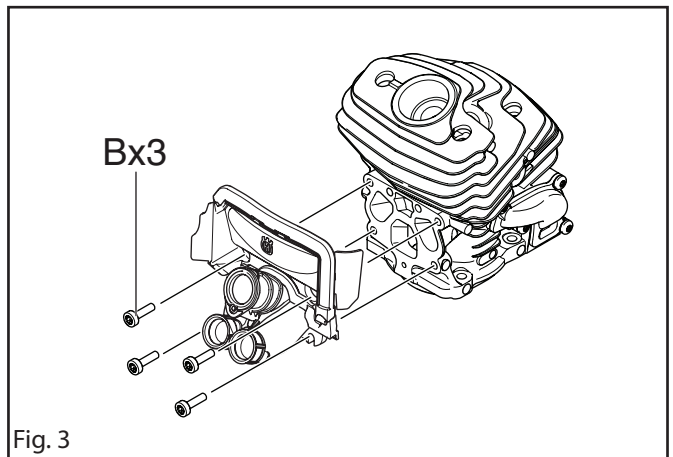

Fig. 3
8. Unscrew the intake manifold (four screws). See figure 3.